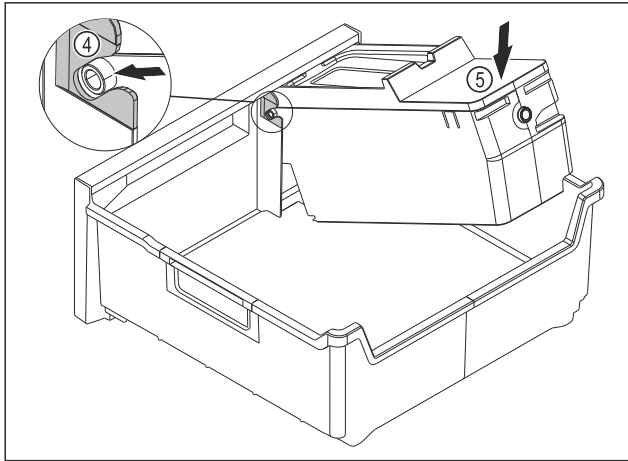

Fig. 115
- ▶ Installing the EasyTwist-Ice body: Insert the axes of the EasyTwist-Ice body into the guides Fig. 115 (4).
- ▶ Press down the EasyTwist-Ice body Fig. 115 (5) at the rear.